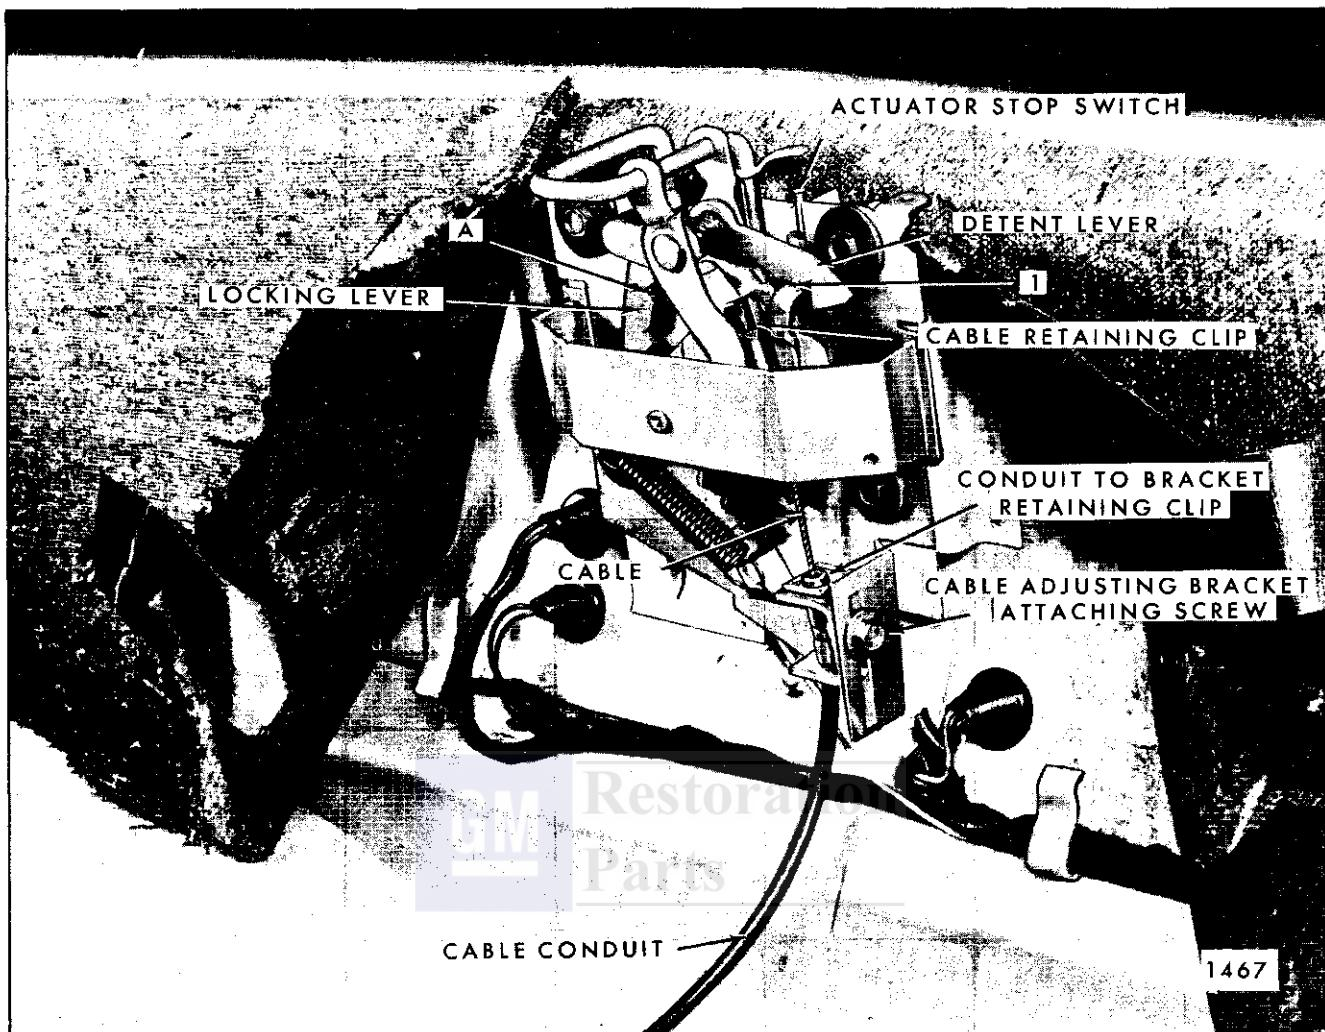
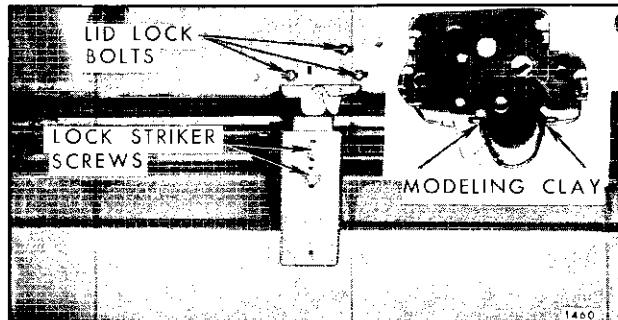
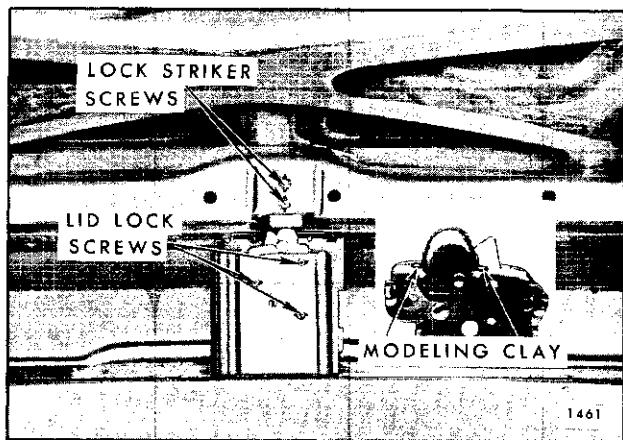

Fig. 8-16—Rear Compartment Mechanical Pull-Down Unit — Cadillac Styles with Option
Fig. 8-21—Rear Compartment Lid Lock Assembly - Mounted in Rear Compartment Lid
Fig. 8-22—Rear Compartment Lid Lock Assembly — Mounted in Rear End Panel
1. Open rear compartment lid. Remove mechanical pull-down unit cover panel. Depress striker slightly to relieve tension from cable and disengage clip securing cable to pull-down control arm (Fig. 8-16).
2. Disengage clip securing cable conduit to cable adjusting bracket and disengage cable and cable conduit from pull-down unit (Fig. 8-16).
2. Repeat this procedure at other end of cable, disengaging clips securing cable to pull-down unit and cable conduit to adjusting bracket (Fig. 8-16), and remove cable from body.
To increase cable tension, position hydraulic cylinder end of cable in the upper slot on the lower end of the cylinder ("1" in Fig. 8-21). If more tension, or finer adjustment, is required, loosen cable adjusting bracket attaching screw (Fig. 8-16). Adjust bracket downward (to increase cable travel) and tighten attaching screw.
IMPORTANT: The lack of lubrication between the toggle and the detent lever ("1", Fig. 8-16) can greatly increase the effort required to trip (unlock) the pull-down unit. Therefore, make certain point of contact between these two levers is lubricated with 630 AAW Lubriplate or its equivalent.
3. Remove rear compartment lid lock attaching bolts and remove lock from lid (Figs. 8-21 and 8-22).
2. Remove striker attaching screws and remove striker (Fig. 8-21 and Fig. 8-22).
1. Insert a small quantity of modeling clay on frame of lock at both sides of the lock bolt (Figs. 8-21, and 8-22). Close lid with moderate force.